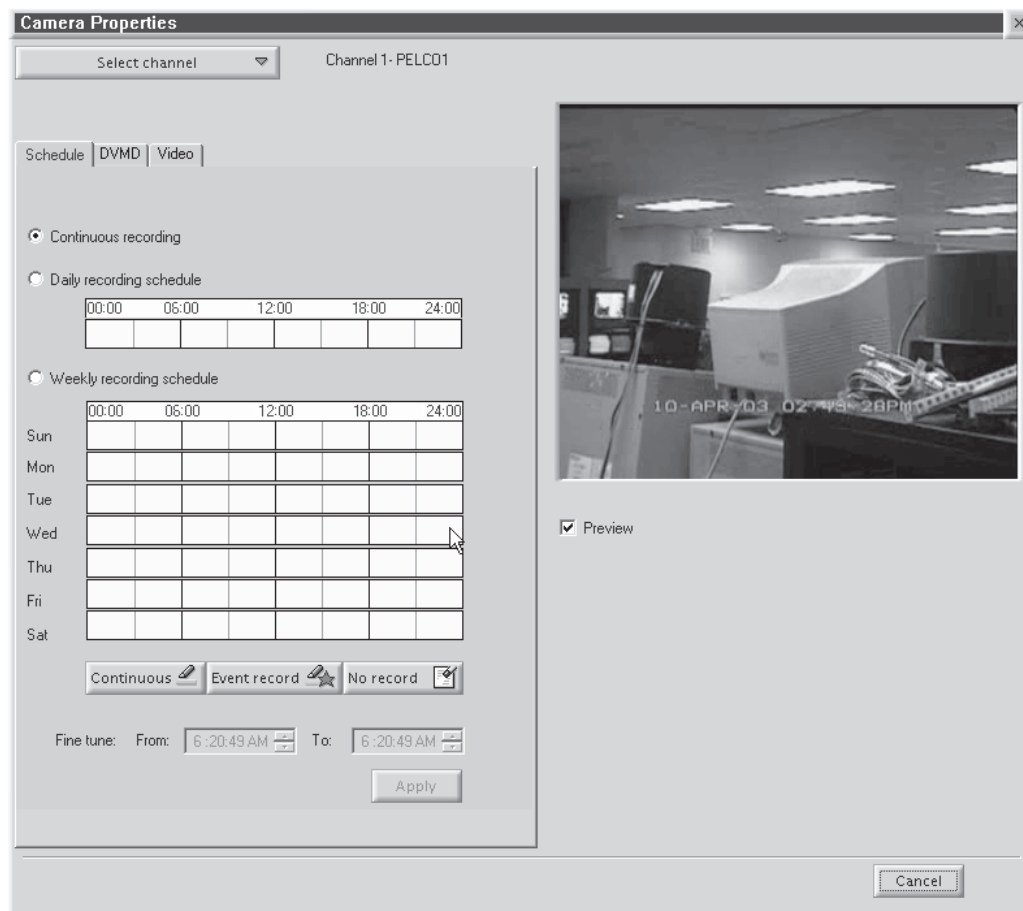

Figure 60. Continuous Recording Schedule Page
1. Select the "Continuous recording" radio button. (This is the default setting and should already be selected the first time you select a channel.) Refer to Figure 60.